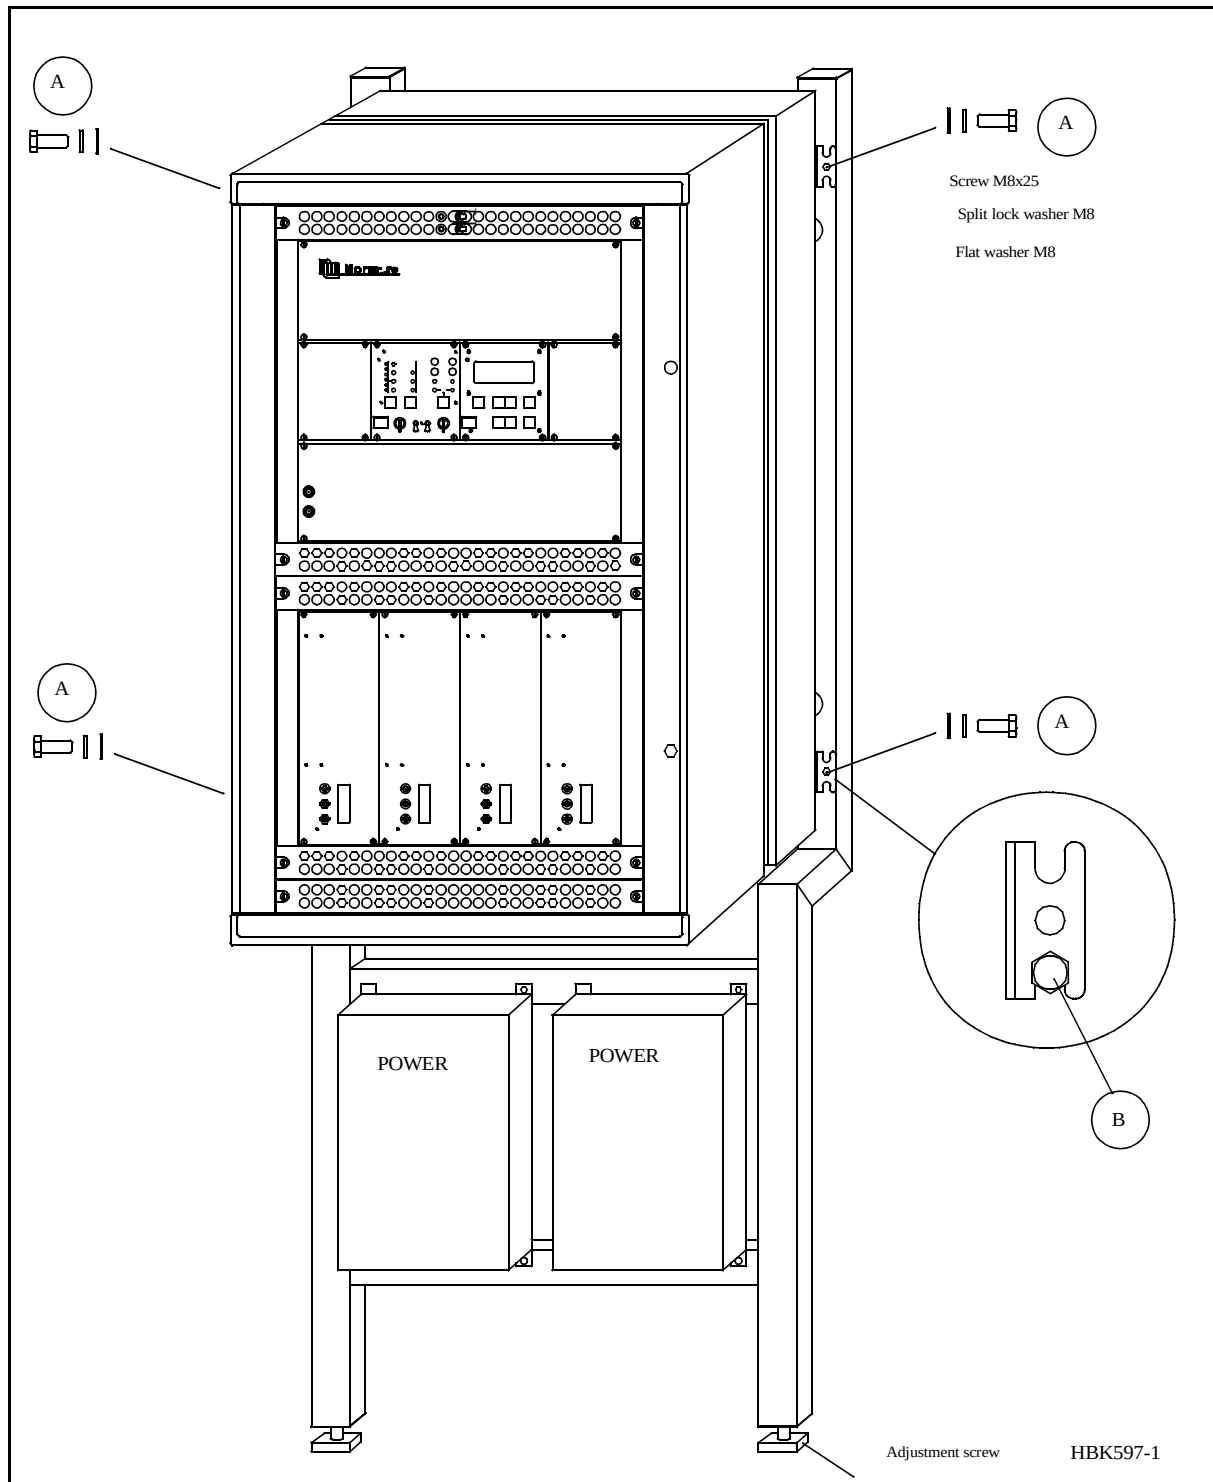

Figure 2-2 «NM7000» mounted on wall with MK1343A.
NAVIA AVIATION supplies a wall mounting kit, MK1343A. This kit is dimensioned for standard 60 cm space between studs. For easy mounting, place the cabinet on the rest screws (B) before entering the mounting screws (A). This is shown in the enlarged view in figure 2-2.